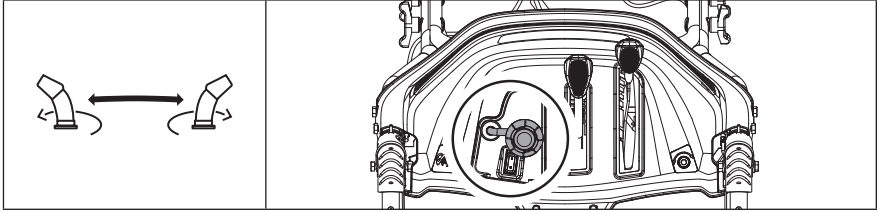

Figure 28
Move the discharge chute rotation crank either left or right. Clockwise (CW) moves the chute to the right. Counterclockwise (CCW) moves the chute to the left. (Fig. 28)